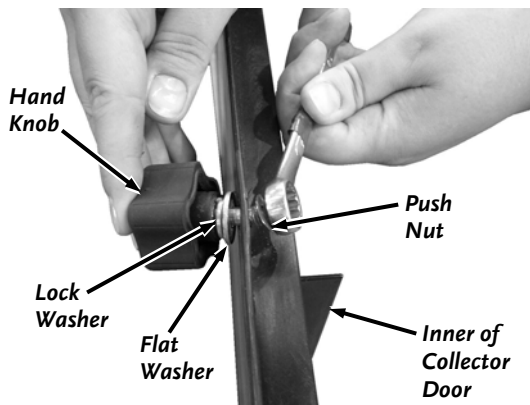

Figure 10
10. Slide a Lock Washer onto a Hand knob stud first (**Figure 10**) and then a Flat Washer. Insert the stud of the Hand Knob through one of the holes in the bottom of the Collector Door (Hand Knob on outside of Door).